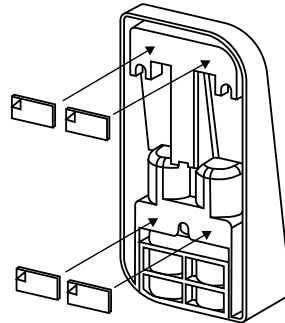

Fig. 114
- 2 Attach the enclosed adhesive pads to the positions shown in the illustration and peel off the backing strips (Fig. 114).